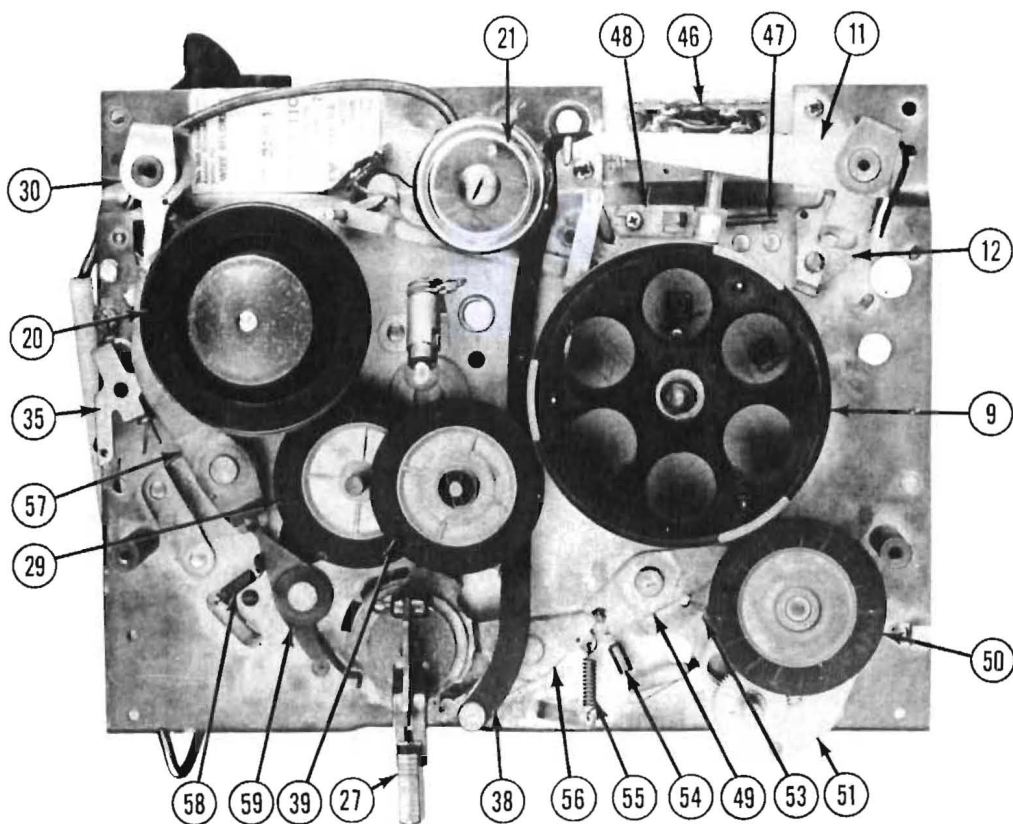

Figure 2
The emergency brake (items 11 and 12), Figure 2 is ready to work at any time during rewind. If during rewind the recording wire becomes loose or is broken, the emergency brake immediately applies a heavy brake to the takeup drum (9) stopping the drum. This prompt action prevents the "flywheel effect" of the takeup drum from spilling or tangling the wire.